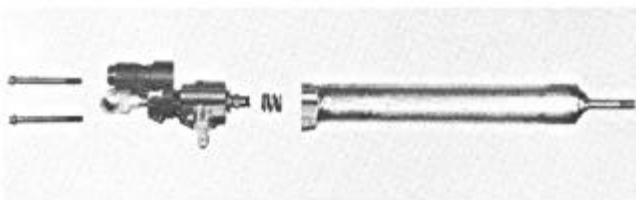

FIGURE 11
3. Remove the two screws attaching the steering arm ball housing and the valve and spool assembly to the hydraulic cylinder assembly ( $7/16$ " cap screws), Figure 11.